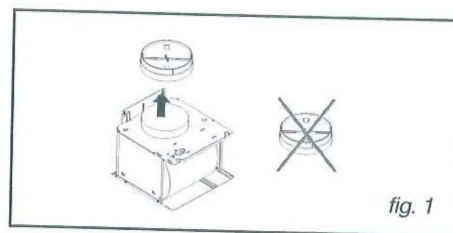

fig. 1
(fig. 1)
– Draw a horizontal line 70 cm minimum from the cook top (fig. 1).
– Draw a vertical line (B/fig. 1) on the wall that is centred over the cook top and that extends from the horizontal line drawn in the previous step (A) to the ceiling.
– Cut the drilling template by following the dotted lines to obtain two parts, C1 and C2 (fig. 1).
– Place the C2 template (fig. 1) on the wall, superimposing the line that represents the hood's axis over vertical line B (fig. 1) drawn in a previous step.
– Place the C1 template (fig. 1) against the wall flush with the ceiling.
– Using the two screws (fig. 1), attach the metal chimney bracket against the wall, flush with the ceiling for support.
- Remove the back-flow valve (fig. 1).
• Dismantling the filter cartridge (fig. 1)
- Remove the lighting port (fig. 1).